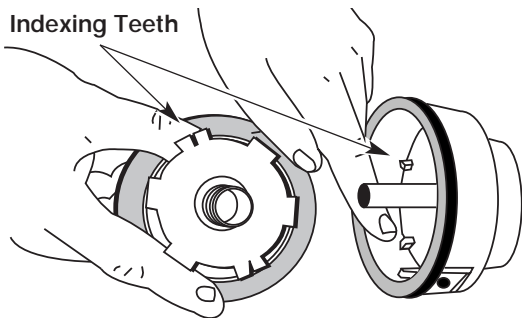

Figure 14
5. Check the indexing teeth on the inner reel and outer spool for wear. If necessary, remove burrs or replace the reel and spool. See Figure 14.